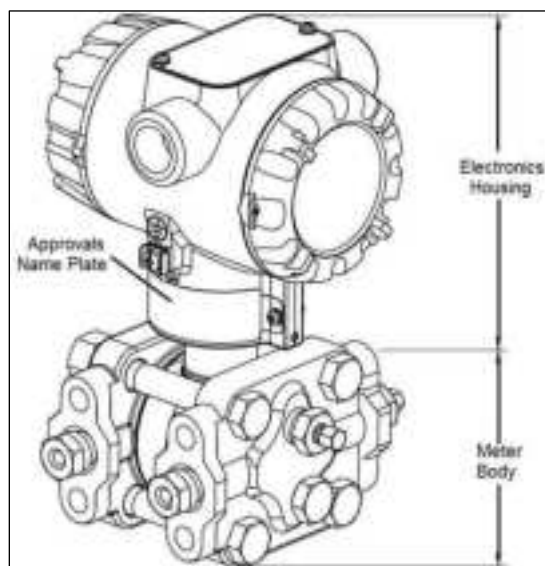
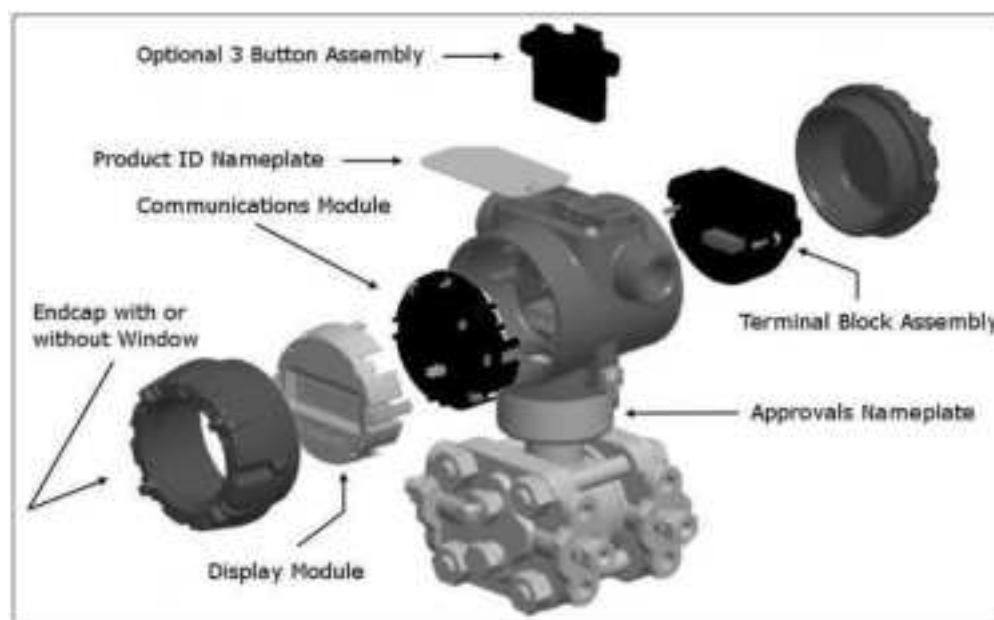
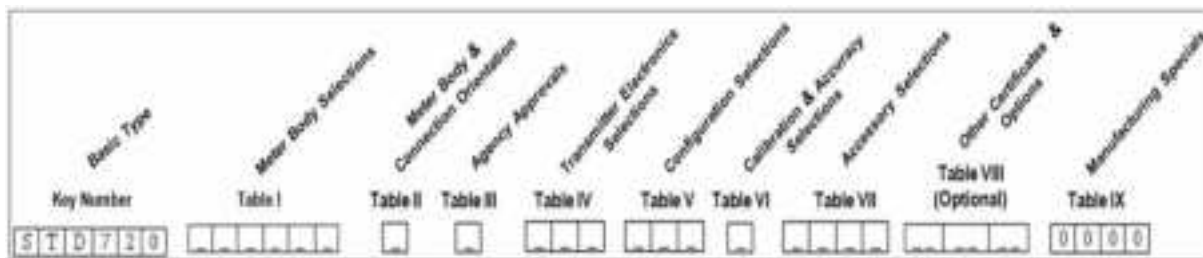

Figure 1 – ST 700 Standard Transmitter Major Assemblies
Figure 2 – ST 700 Standard Transmitter Electronics Housing Components
Figure 3 – ST 700 Standard Transmitter - Typical Name Plate
Look at the nameplate on top of the unit shown in Figure 3. Refer to the model number
As shown in Figure 1, the ST 700 standard is packaged in two major assemblies: the electronics housing and the meter body. The elements in the electronic housing respond to setup commands and execute the software and protocol for the different pressure measurement types. Figure 2 shows the assemblies in the electronics housing with available options.
The transmitter nameplate mounted on the bottom of the electronics housing (see Figure 1) lists its model number, physical configuration, electronics options, accessories, certifications, and manufacturing specialties. Figure 3 is an example of a typical Gauge Pressure (GP) or Atmospheric Pressure (AP) transmitter name plate. The model number format consists of a Key Number with several table selections. The Differential Pressure (DP), Absolute Pressure (AP), and Gauge Pressure (GP) name plates are essentially the same. The DP model provides one additional entry (7 vs. 6) in the meter body Selections (Table I) to accommodate the static pressure rating.
An “approvals” name plate is located on the bottom of the electronics housing assembly. See Figure 1 for the exact location. The approvals name plate contains information and service marks that disclose the transmitter compliance information.